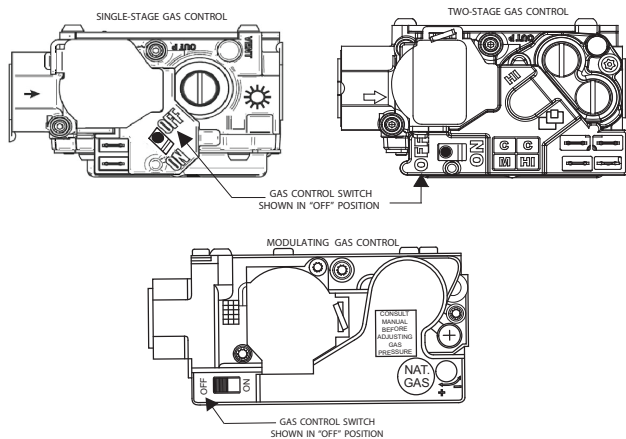

Fig. 11 - Control Switch to OFF
5. Turn the control switch on the gas control to the OFF position and wait 5 minutes. See Fig. 11. Then smell for gas, including near the floor. If you smell gas, **STOP!** Follow “B” on furnace label. If you don’t smell gas, go to next step.